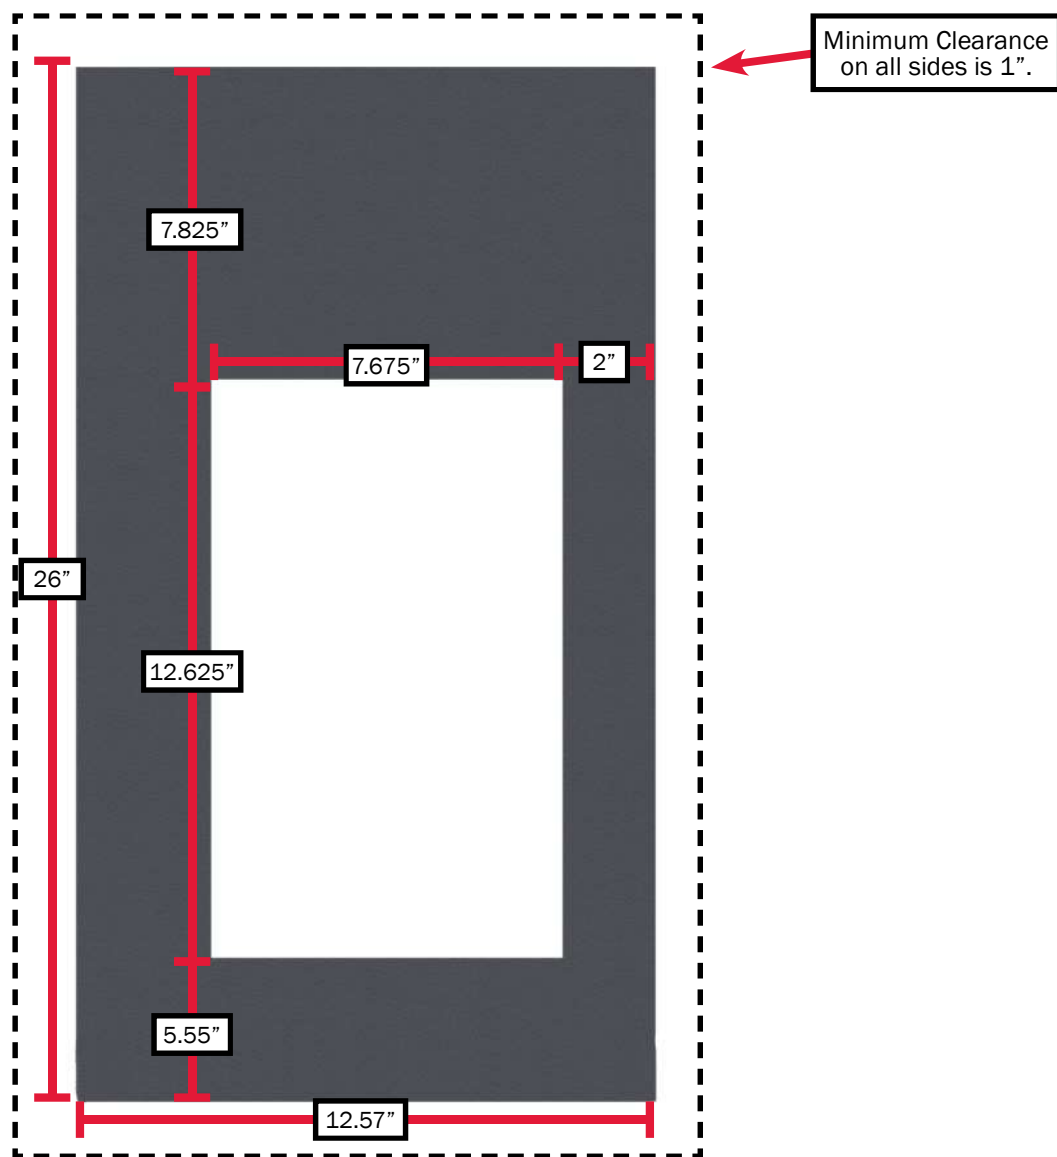

Figure 5
2. Cut out the required mounting flange opening Reference Figure 5.
- Floor cutout information Figure 5.
NOTE: The mounting flange of the Aqua-Hot is not centered on the body of the heater. Reference Figure 5 for the correct dimensions to construct the surface on which the Aqua-Hot will be mounted.